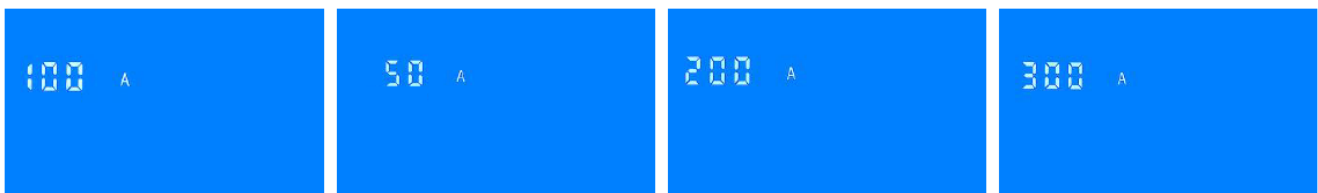

Figure 8 Current range choosing interface
- IV. Press and hold the button to enter the setting until the screen has changed to Figure 8.